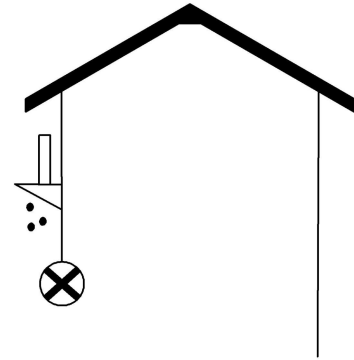

Figure 4-5
- (4) When installing units in places that frequent snow, pay special attention to raising the foundation as high as possible.
- (5) If you install the equipment on the building frame, install a waterproof tray (field supply about 100mm) to avoid dripping.(See the figure 4-5 on the right)